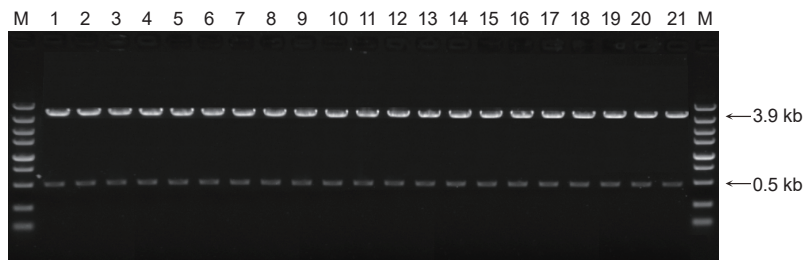

Fig 9. Agarose Gel Electrophoresis of Enzyme Digestion Products
- ◇ Inoculate the remaining medium of positive clones into fresh LB medium and culture overnight. Then, extract the plasmids for further enzyme digestion analysis (Fig 9) or DNA sequencing.